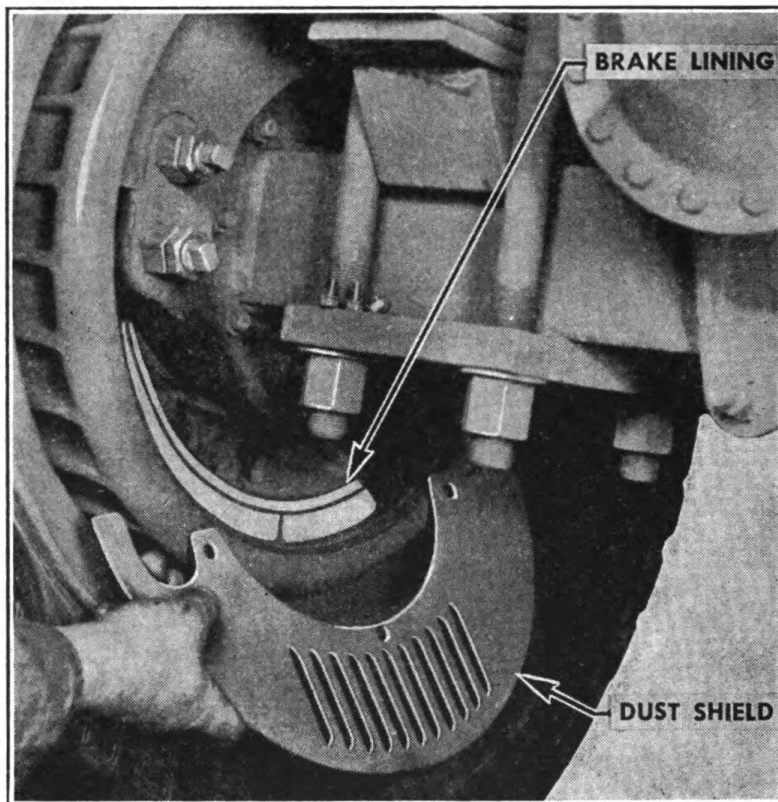
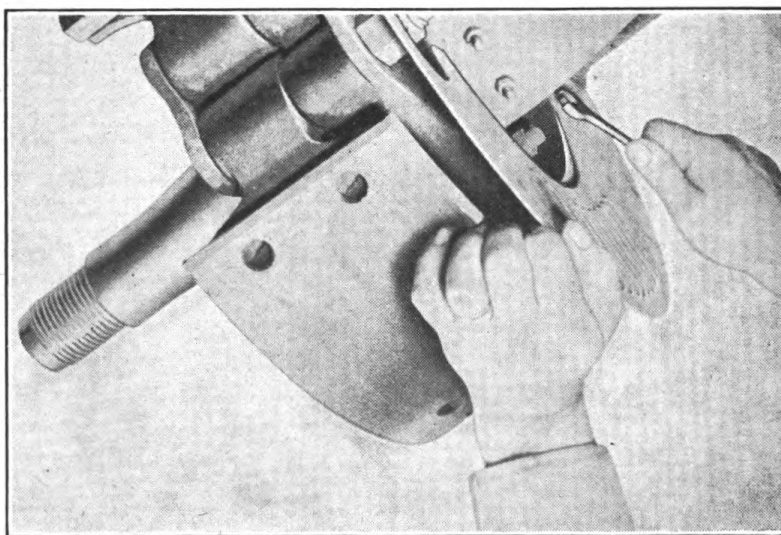

FIGURE 23. BRAKE LINING INSPECTION.
FIGURE 25. DUST SHIELD—REMOVAL
4. BRAKE LINING INSPECTION (Fig. 23).—a. Visual inspection of brake shoes and linings can be made without removing wheels from the axle. Simply remove the two dust shields, which are bolted to brake adaptor with six $\frac{1}{4}$ " cap screws (Fig. 25). This exposes the assembly to check for lining thickness and grease on the lining.
b. NOTE: It is not necessary to remove the brake shoes from the assembly to reline. It is necessary, however, to remove the dust shields (Fig. 25).